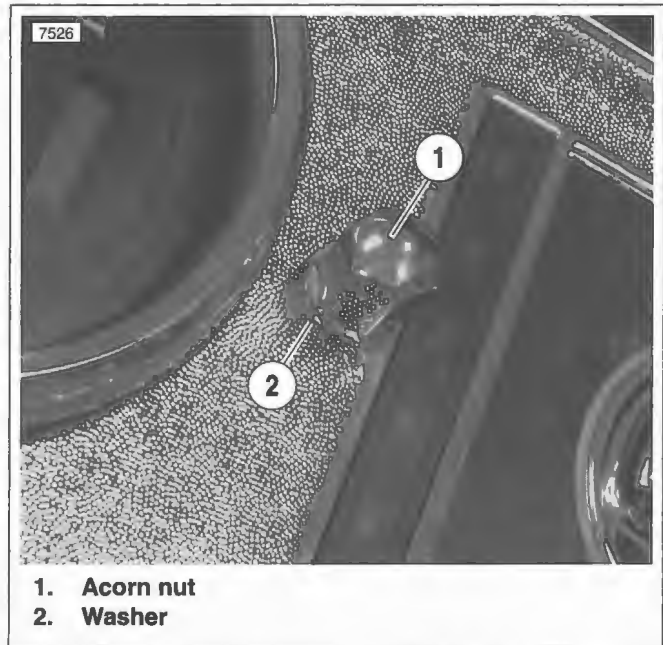

Figure 4-6. Instrument Console: All But FXSTD
- a. All but FXSTD, see Figure 4-6. Remove acorn nut (1) and washer (2) on instrument console to separate console from fuel tank.
8. See Figure 4-6. Install instrument console with acorn nut and washer. Tighten to **80-100 in-lbs** (9.0-11.3 Nm).